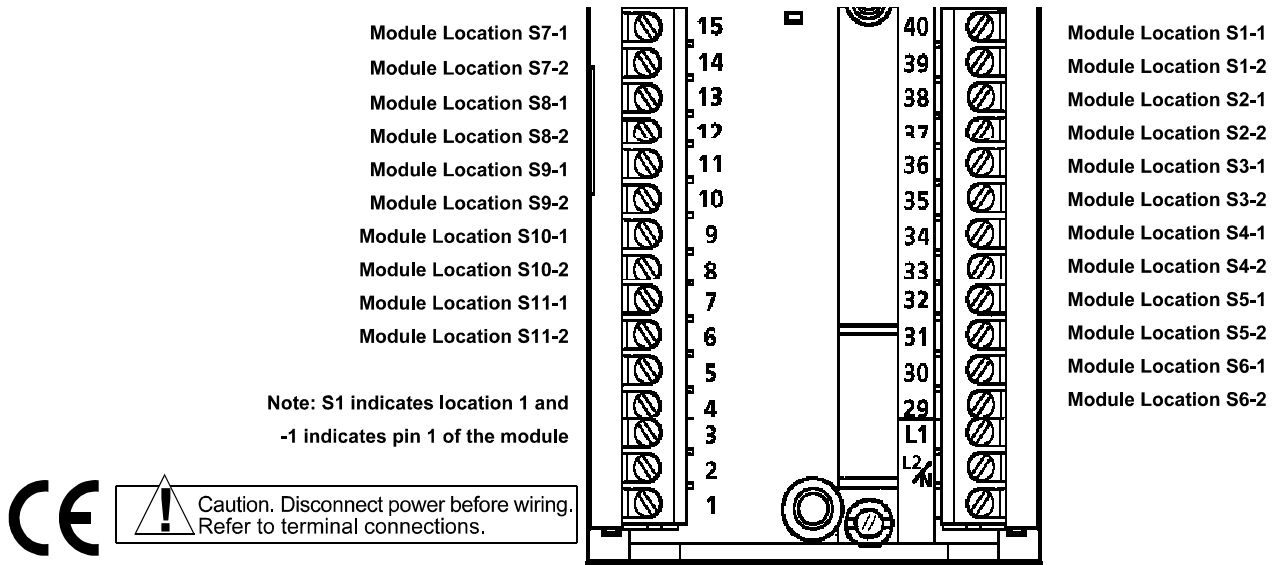

Figure 4-1. Terminal Identifications for Modular I/O
The wiring connections described in this section are made with the controller installed in its operating location and with the power off. All connection terminals are located under a cover on the back of the instrument housing. Figure 4-1 shows the modular connection terminals with the cover removed.
1. The diagrams for single width modules show connections to a sample location (usually location 1). The terminal numbers for the actual location being used must be determined by matching pin numbers 1 and 2 in each diagram to the terminal numbers for the selected location as shown in Figure 4-1.
* Note: For other module locations, see Figure 4-1 for terminal numbers.